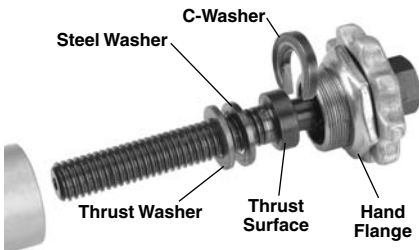

Figure 2 – Unit Assembly: Orient C-Washer and Steel Washer With Chamfer Towards Thrust Surface
- Yearly (or more often under heavy use), disassemble the cutter by turning the hand flange clockwise (left hand thread). Remove the C-washer and unscrew the feedscrew from the cutter. Clean the feedscrew and washers and apply a good quality extreme pressure (EP designation) grease to points of relative motion when reassembling. See Figure 2.